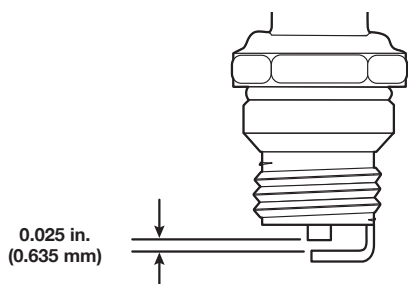

Fig. 45
7. Use a feeler gauge to set the air gap at 0.025 in. (0.635 mm)(Fig. 45).